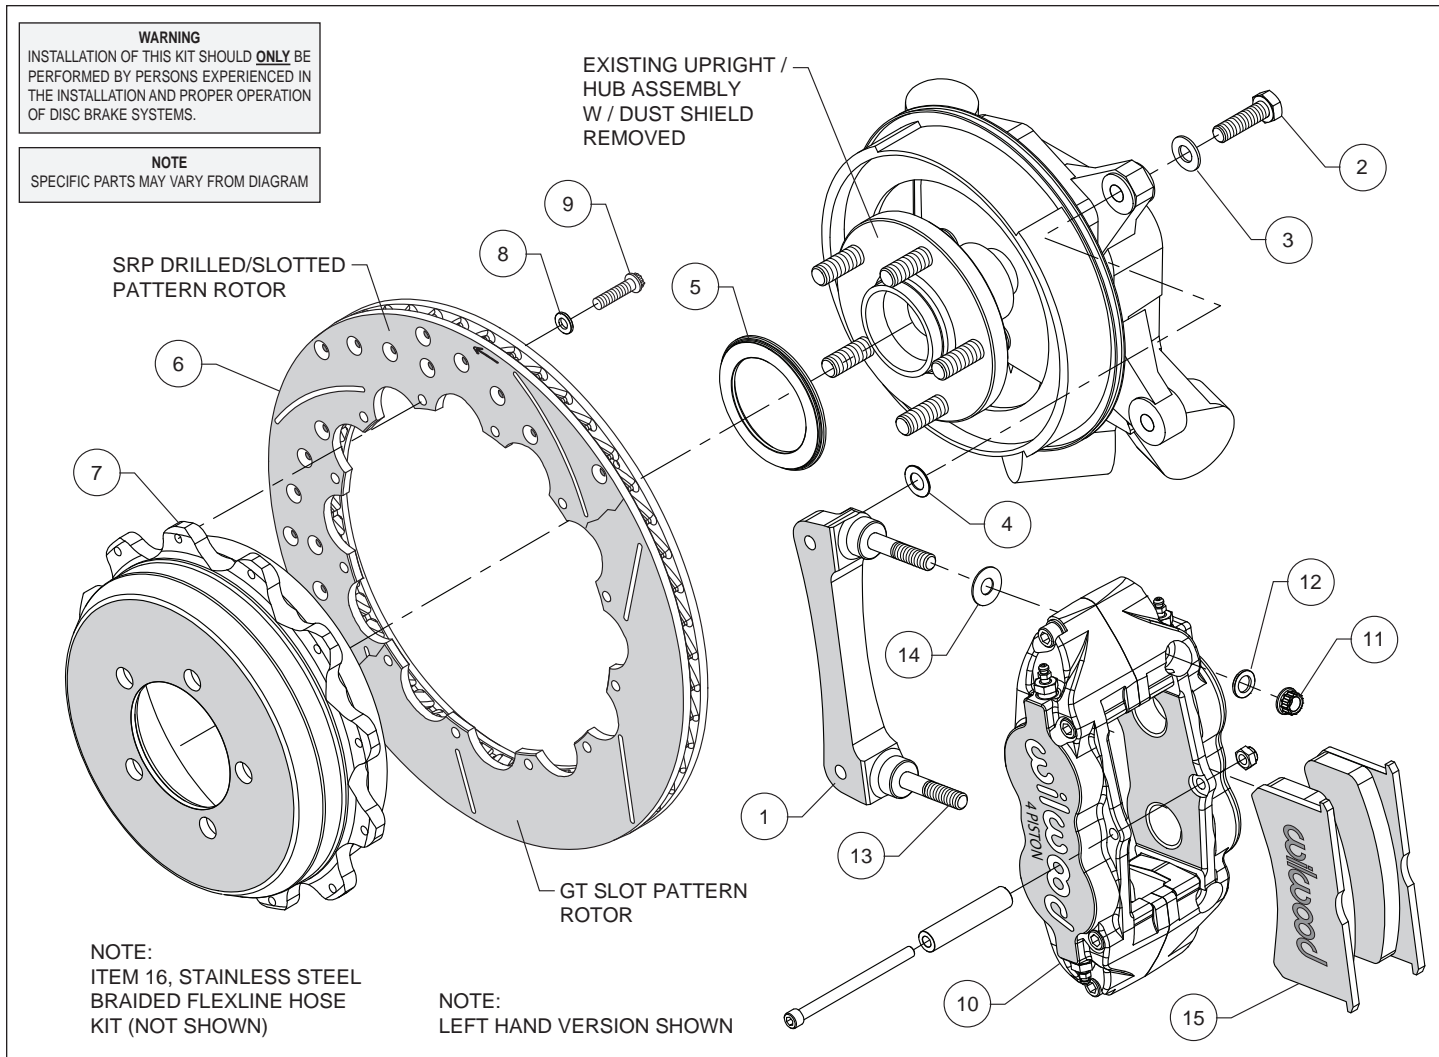
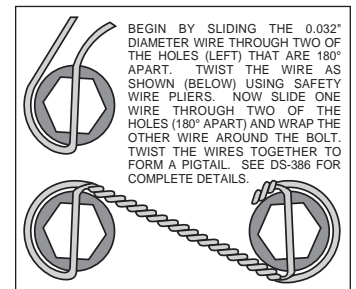

Figure 1. Typical Installation Configuration
Figure 3. Safety Wire Diagram
Assembly Instructions (numbers in parenthesis refer to the parts list and Figure 1 on the preceding pages):
- The caliper mount bracket (1) should initially be installed with clean, dry threads on the mounting bolts. Orient the bracket as shown in Figure 1 and Photo 2, and install using washers (3) and bolts (2). Initially place one shim (4) on each bolt between the bracket and upright, Figure 1. Temporarily tighten the mounting bolts. **NOTE:** *The bracket must fit squarely against the mount bosses on the upright.* Inspect for interference from casting irregularities, machining ridges, burrs, etc. Later, after the caliper alignment has been checked, the mount bolts will be secured using red *Loctite*® 271.
- Orient the rotor (6) and the hat (7) as shown in Figure 1 and Photo 3. Attach rotor to hat using bolts (9) and washers (8). Using an alternating sequence, apply red *Loctite*® 271 to the threads, and torque to 140 **in-lbs**. For an added measure of security, the bolts may be safety wired using standard 0.032 inch diameter stainless steel safety wire as shown in Figure 3. Please refer to Wilwood's data sheet DS-386 (available at www.wilwood.com/Pdf/DataSheets/ds386.pdf) for complete safety wire installation instructions.
- Lubricate the caliper mounting studs (13) with lightweight oil. Initially place one .035" thick shim (14) on each stud as shown in Figure 1 and Photo 5. Mount the caliper (10) onto the bracket (1) using lock nuts (11) and washers (12), Figure 1. Temporarily tighten the lock nuts and view the rotor through the top opening of the caliper. The rotor should be centered in the caliper, Photo 6. If not, adjust by adding or subtracting shims (4) between the bracket and the upright. Once the caliper alignment is correct, remove the bracket mounting bolts one at a time, apply red *Loctite*® 271 to the threads, and torque to 40 ft-lb.